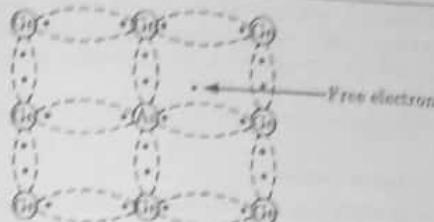

Fig. 3.12.1. Arsenic atom as free electron (donor).
2. Fig. 3.12.1 shows the arsenic (As) atom fits in germanium (Ge) crystal in such a way that its four valence electrons form covalent bond with four germanium atom.